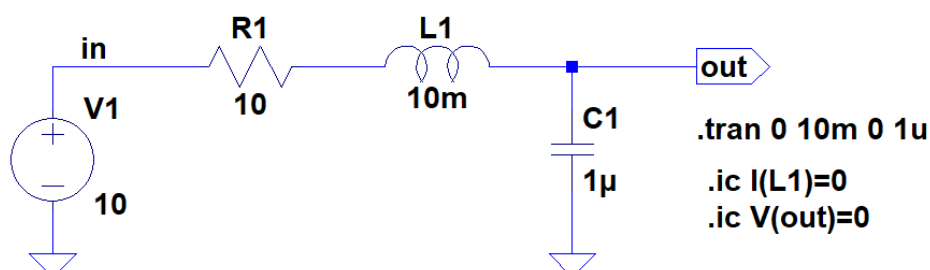

Fig. 2. Charging a capacitor in an RLC circuit.
1. Create a capacitor charging diagram in the RLC circuit (Fig. 2)
- Set the values of the elements as shown in Figure 2. Set the value of the voltage source 10 in the *DC value [V]* field.